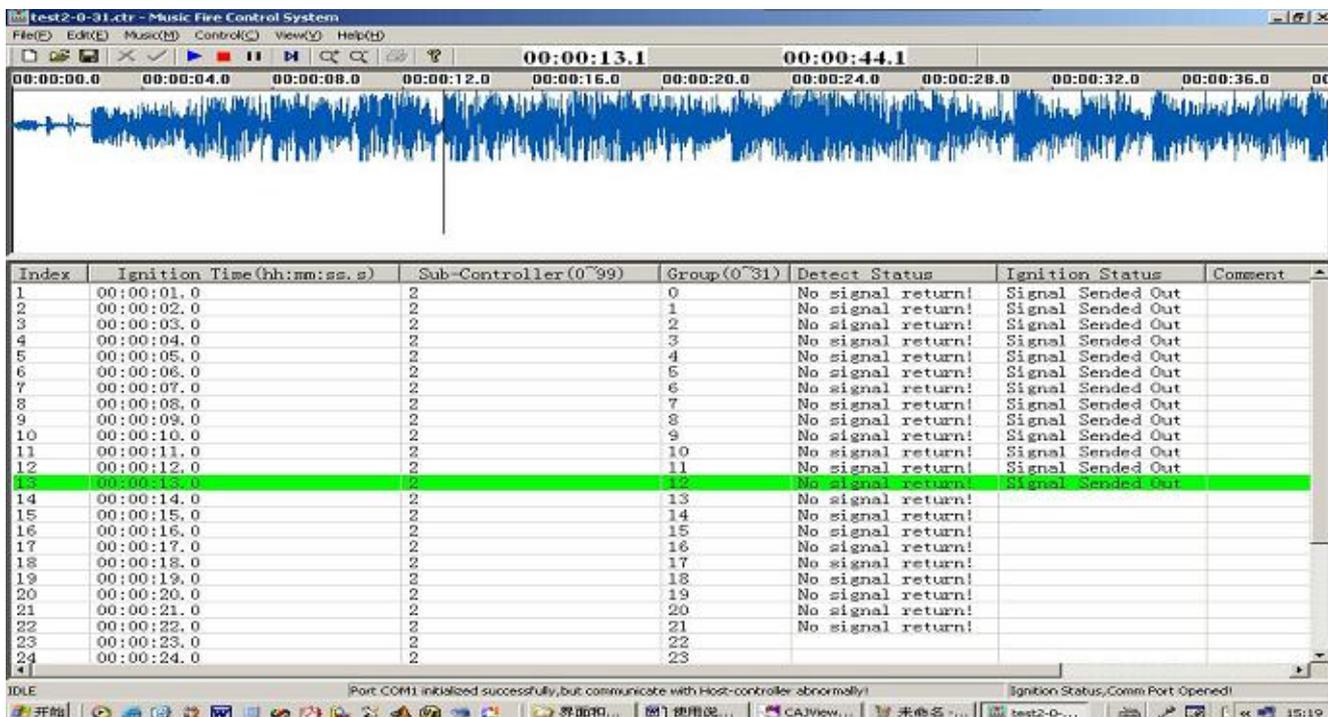

fig 30 Fire
10. Fire. Click the menu “Control” → “Fire”, the control system will enter the fire status. “Fire status, the Comm port is opened” will show in the status bar in the right-bottom corner. Click the “Play” button in the toolbar, the Fire task will be performed so. The status of control points will be returned and show in the report table. As show in fig 30.